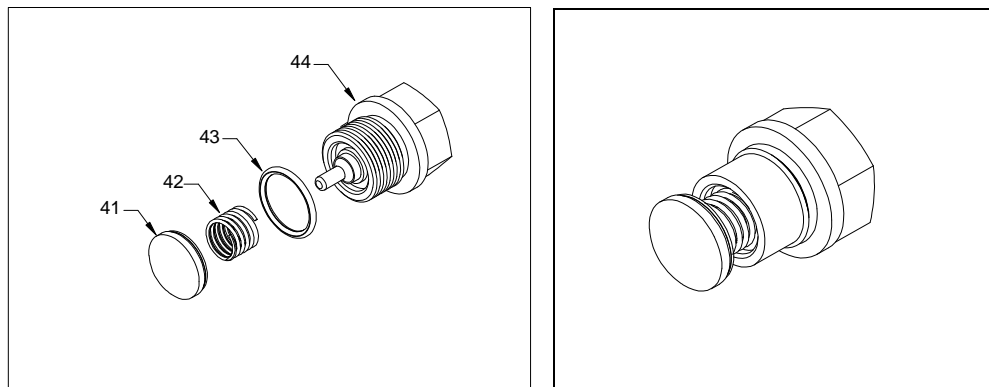

Fig. 2: Valve Assembly
Remove the 2 manifold nuts (53), see Fig. 13, with a 15/16" socket wrench or Combination Wrench. Loosen the manifold assembly by prying off the manifold using the slots in the crankcase as shown in Fig. 2. Set the manifold assembly aside in a clean work area. If the manifold assembly locating dowel pins (50) fall out, reinsert them into the manifold alignment pin hole.